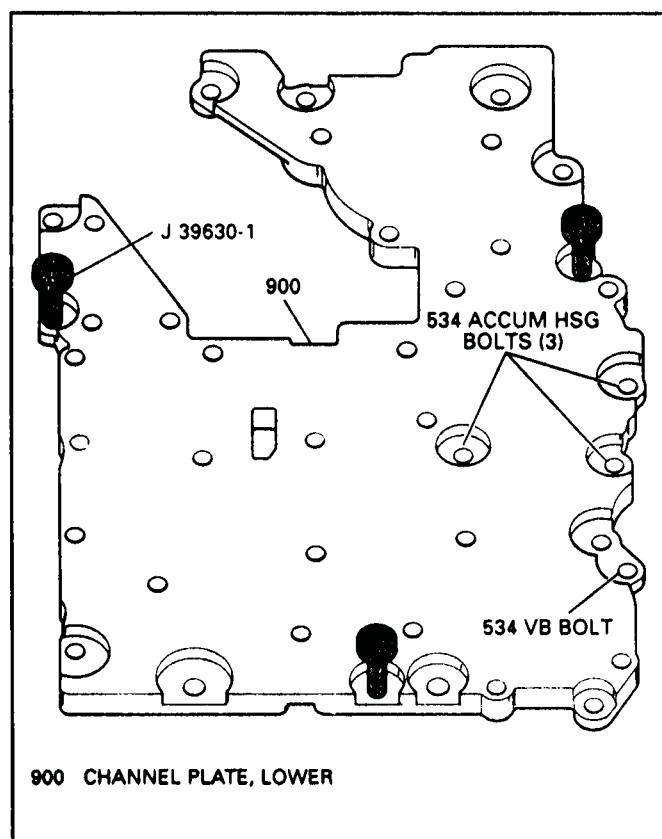

Figure 84
1. Insert pins J-39630-1 into the lower channel plate, as illustrated in Figure 84. Turn lower channel plate over and rest on pin heads.